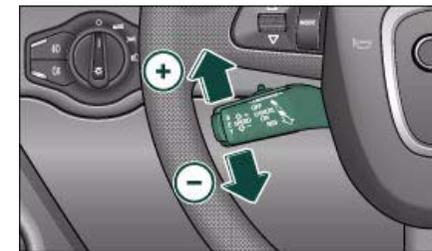

Fig. 140 Control lever for: Setting a new speed
- **Briefly** move the control lever up towards \oplus \Rightarrow fig. 140. The speed will be incremented by one graduation on the scale in the speedometer.